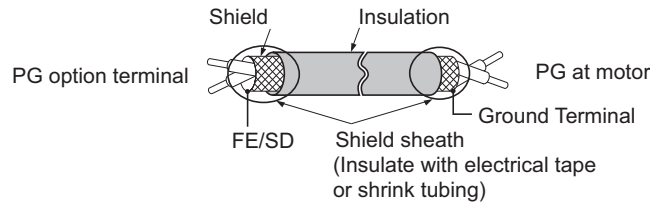

Figure 8.6 Preparing Ends of Shielded Cable
4. Prepare and connect the wire ends as shown in Figure 8.6 and Figure 8.7. Refer to Wire Gauges, Tightening Torque, and Crimp Terminals on page 303 to confirm that the proper tightening torque is applied to each terminal. Take particular precaution to ensure that each wire is properly connected and wire insulation is not accidentally pinched into electrical terminals.